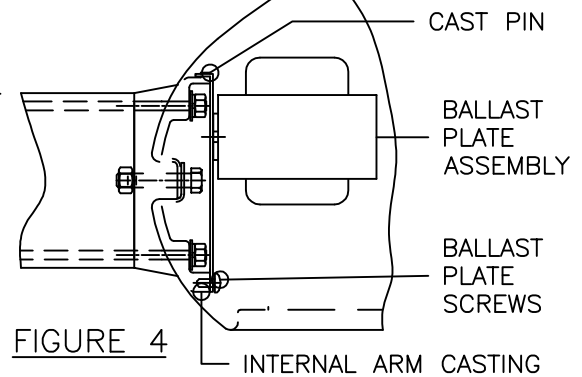

FIGURE 4
3. INSTALL BALLAST PLATE ASSEMBLY INTO FIXTURE BY HANGING BALLAST PLATE HOOK OVER CAST PIN ON INTERNAL ARM CASTING. **SEE FIGURE 4.**